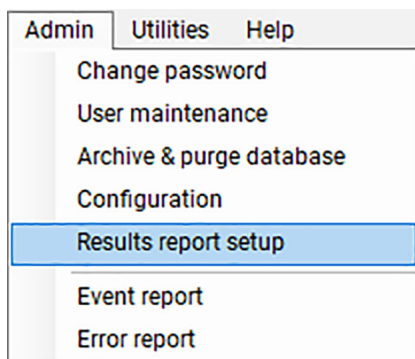

Figure 91 Admin menu
- 1 From the **Admin** drop-down menu, select **Results report setup** (Figure 91).